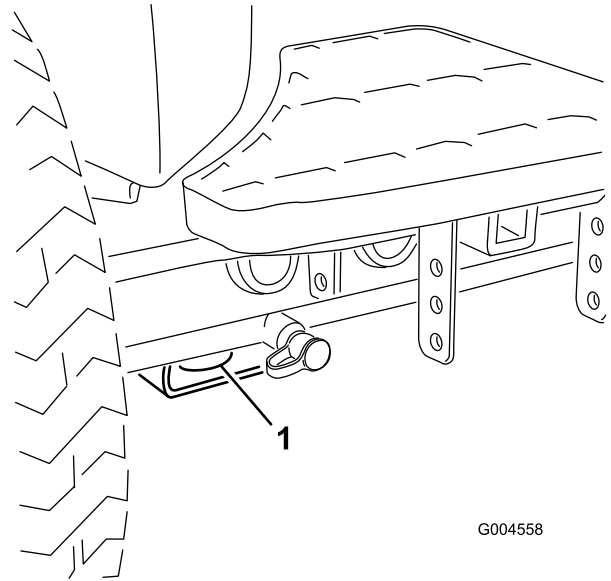

Figure 21
- Front—the hole in the rectangular pad, under the axle tube, inside each front tire (Figure 21).